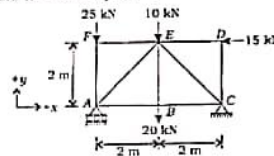

Fig. 5
8. Determine the vertical deflection of joint E of a truss shown in Fig 5. Take $A = 2000 \text{ mm}^2$ and $E = 200 \text{ kN/mm}^2$.